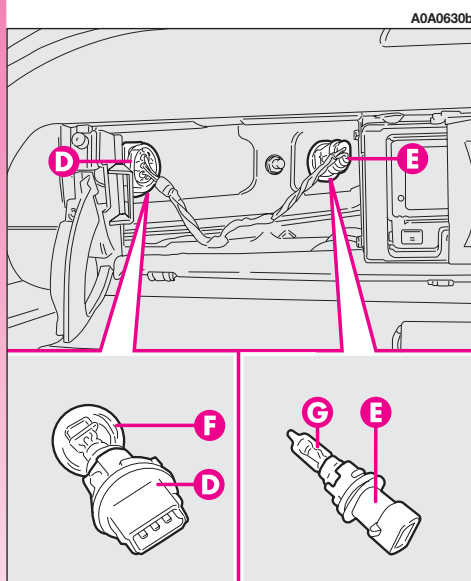

fig. 34
- Turn the bulb for sidelight and braking light counter-clockwise (**D-fig.34**), or the bulb for the direction indicator (**E-fig.34**) and remove it;